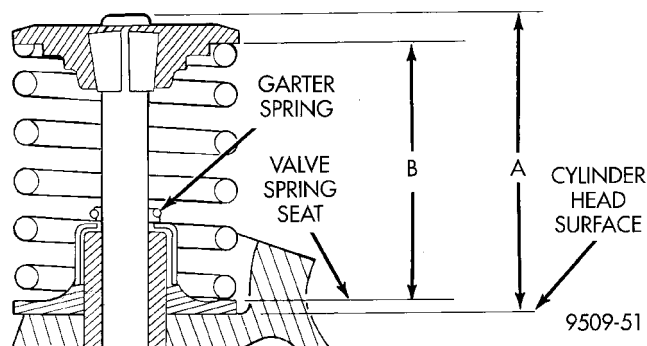

Fig. 98 Checking Spring Installed Height and Valve Tip to Spring Seat Dimensions
(8) Check valve tip to spring seat dimensions A after grinding the valve seats or faces. Grind valve tip to 43.51 - 44.57 mm (1.71 - 1.75 in.) for exhaust valve and 45.01 - 46.07 mm (1.77 - 1.81 in.) for intake valve over spring seat when installed in the head (Fig. 98). The valve tip chamfer may need to be reground to prevent seal damage when the valve is installed.
(4) Check the valve spring installed height B after refacing the valve and seat (Fig. 98). Make sure measurements are taken from top of spring seat to the bottom surface of spring retainer. If height is greater than 40.18 mm (1.58 in.), install a 0.762 mm (0.030